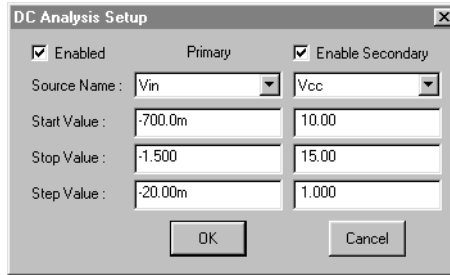
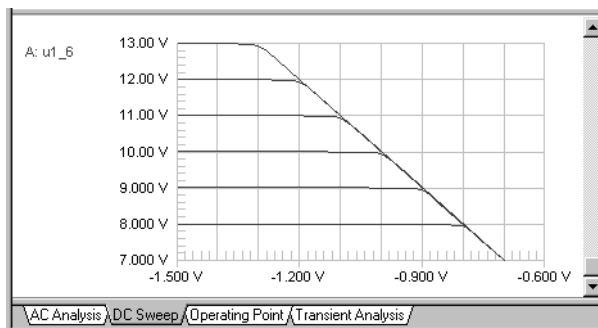

Figure 6.12. The DC Sweep Setup dialog box.
Figure 6.13. A DC Sweep waveform.
- 2 Click the **DC...** button to display the dialog box pictured in Figure 6.12.
The waveform in Figure 6.13 was generated by simulating the Analog.ckt circuit using the values shown in Figure 6.12. Notice that the x axis represents the voltage of the primary source, and the y axis is the voltage at the output of the circuit. The waveforms correspond with each step of the secondary source. See *Using the Analysis Window* earlier in this chapter for more information about manipulating the waveforms.